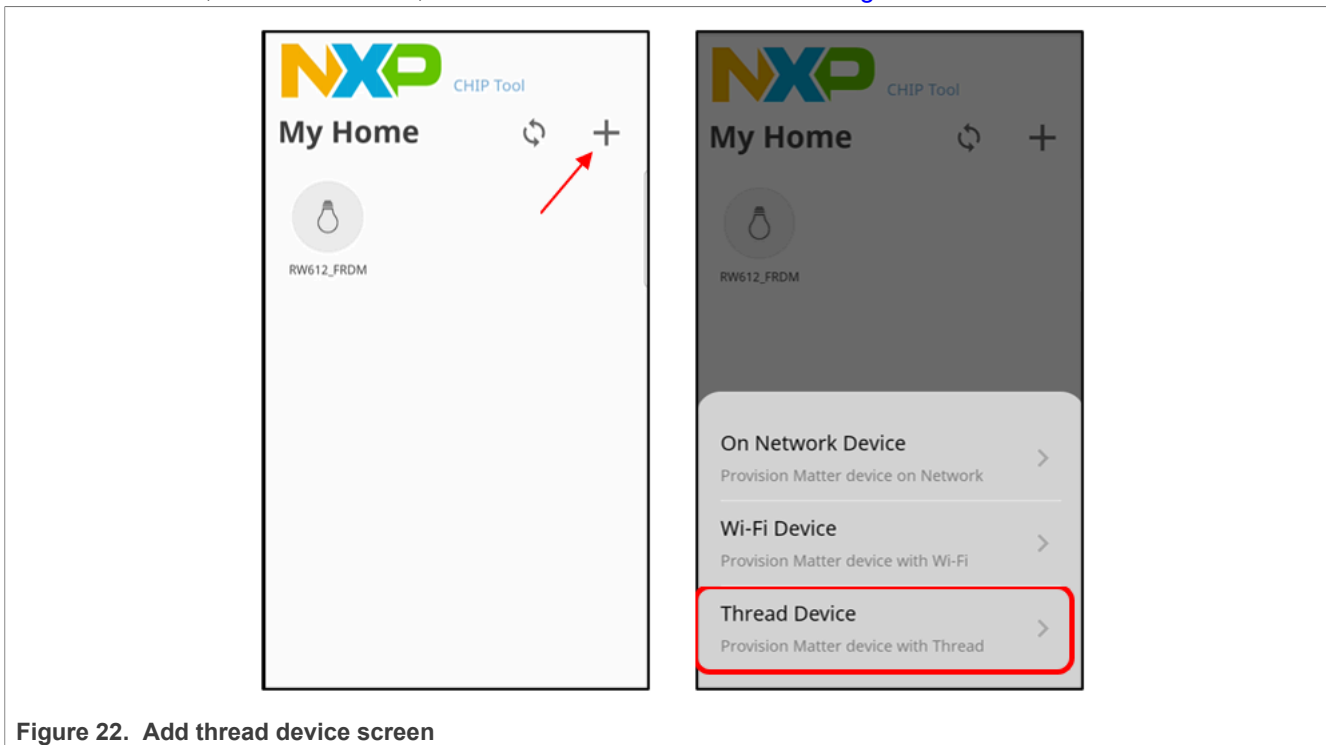

Figure 22. Add thread device screen
1. Add a device, Pair New Device, select Thread Device as shown in Figure 22.